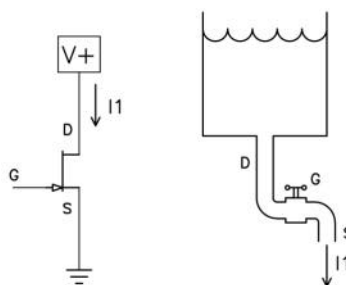

FIGURE 1 FET TRANSISTOR
Figure 1 shows an N channel FET, a quantum mechanical black box with three connections. This device is meant to function as a valve, a little bit like a water faucet. In this picture, the Drain (D) of the FET is attached to an electrical power supply, analogous to the pressurized water supply on the other side of the faucet. You can imagine the pipe as wire, and the tank of water as a battery or even a charged-up capacitor.